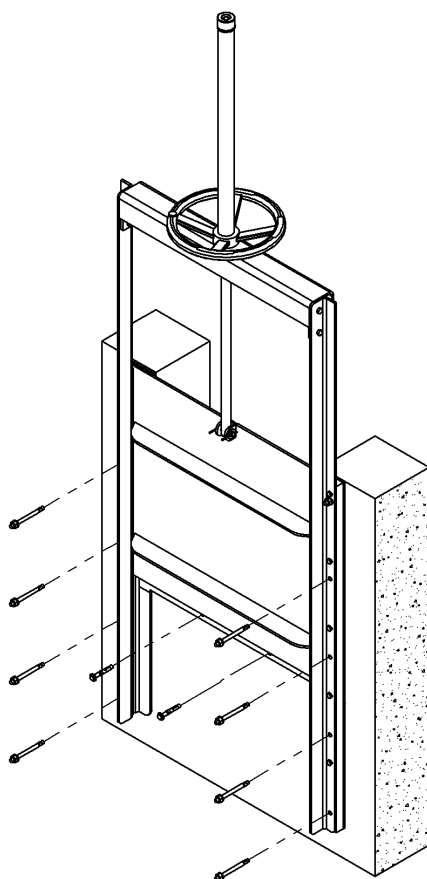

Figure 5
- Drill and install the rest of the anchor bolts (see Figure 5).